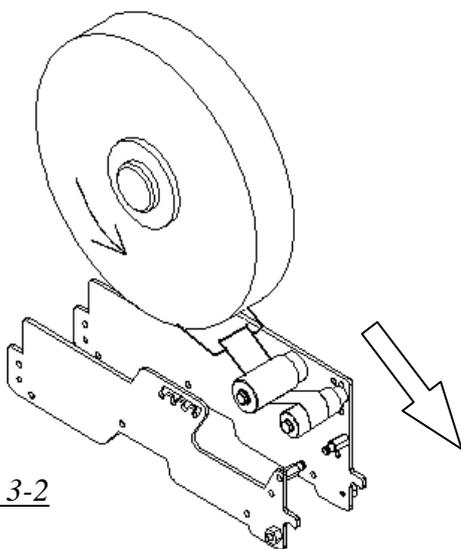

Figure 3-2
- C. Cut off the extra tape on the middle of rubber wheel, see Figure 3-2.